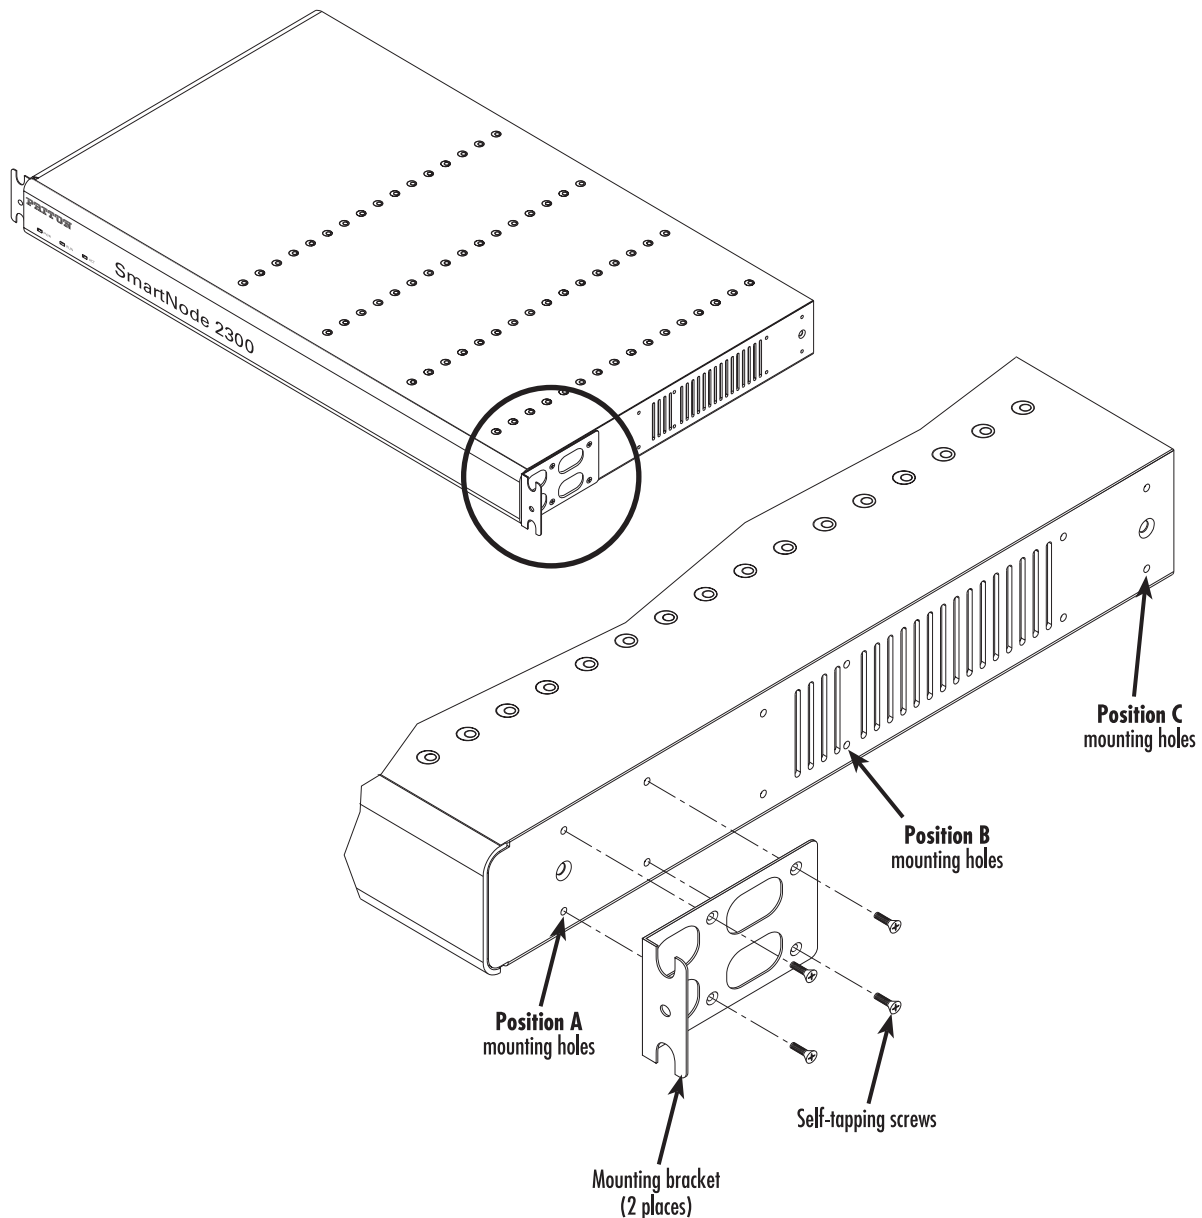

Figure 54. SmartNode 2300 rack mounting bracket location holes
1. Locate the two angled mounting brackets included in the installation kit pack. The bracket (see figure 54) is designed so you can have the 1.5 cm flange facing to the front or to the rear. There are four holes for countersunk screws on the long side of the bracket.
2. Attach a bracket to each side of the SmartNode 2300 with the four self-tapping screws provided. There are three mounting positions for the brackets (positions A, B, and C as shown in figure 54 on page 93), so choose the one that best suits your requirements.